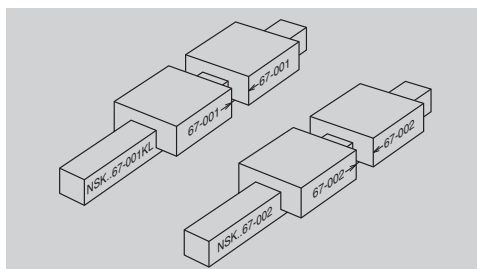

Fig. 9.29 When two rails have the same reference number
- When two or more rails are used in a single set, serial numbers are in sequence if their reference numbers are the same. The linear guide with smallest serial number has the "KL" mark (Fig. 9.29).